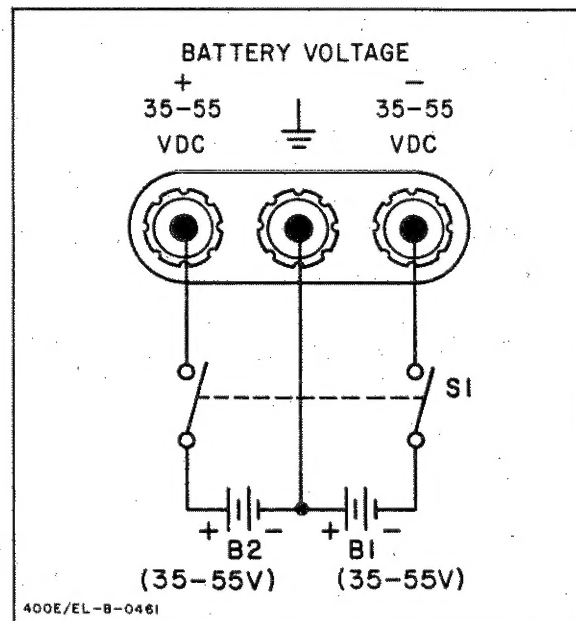
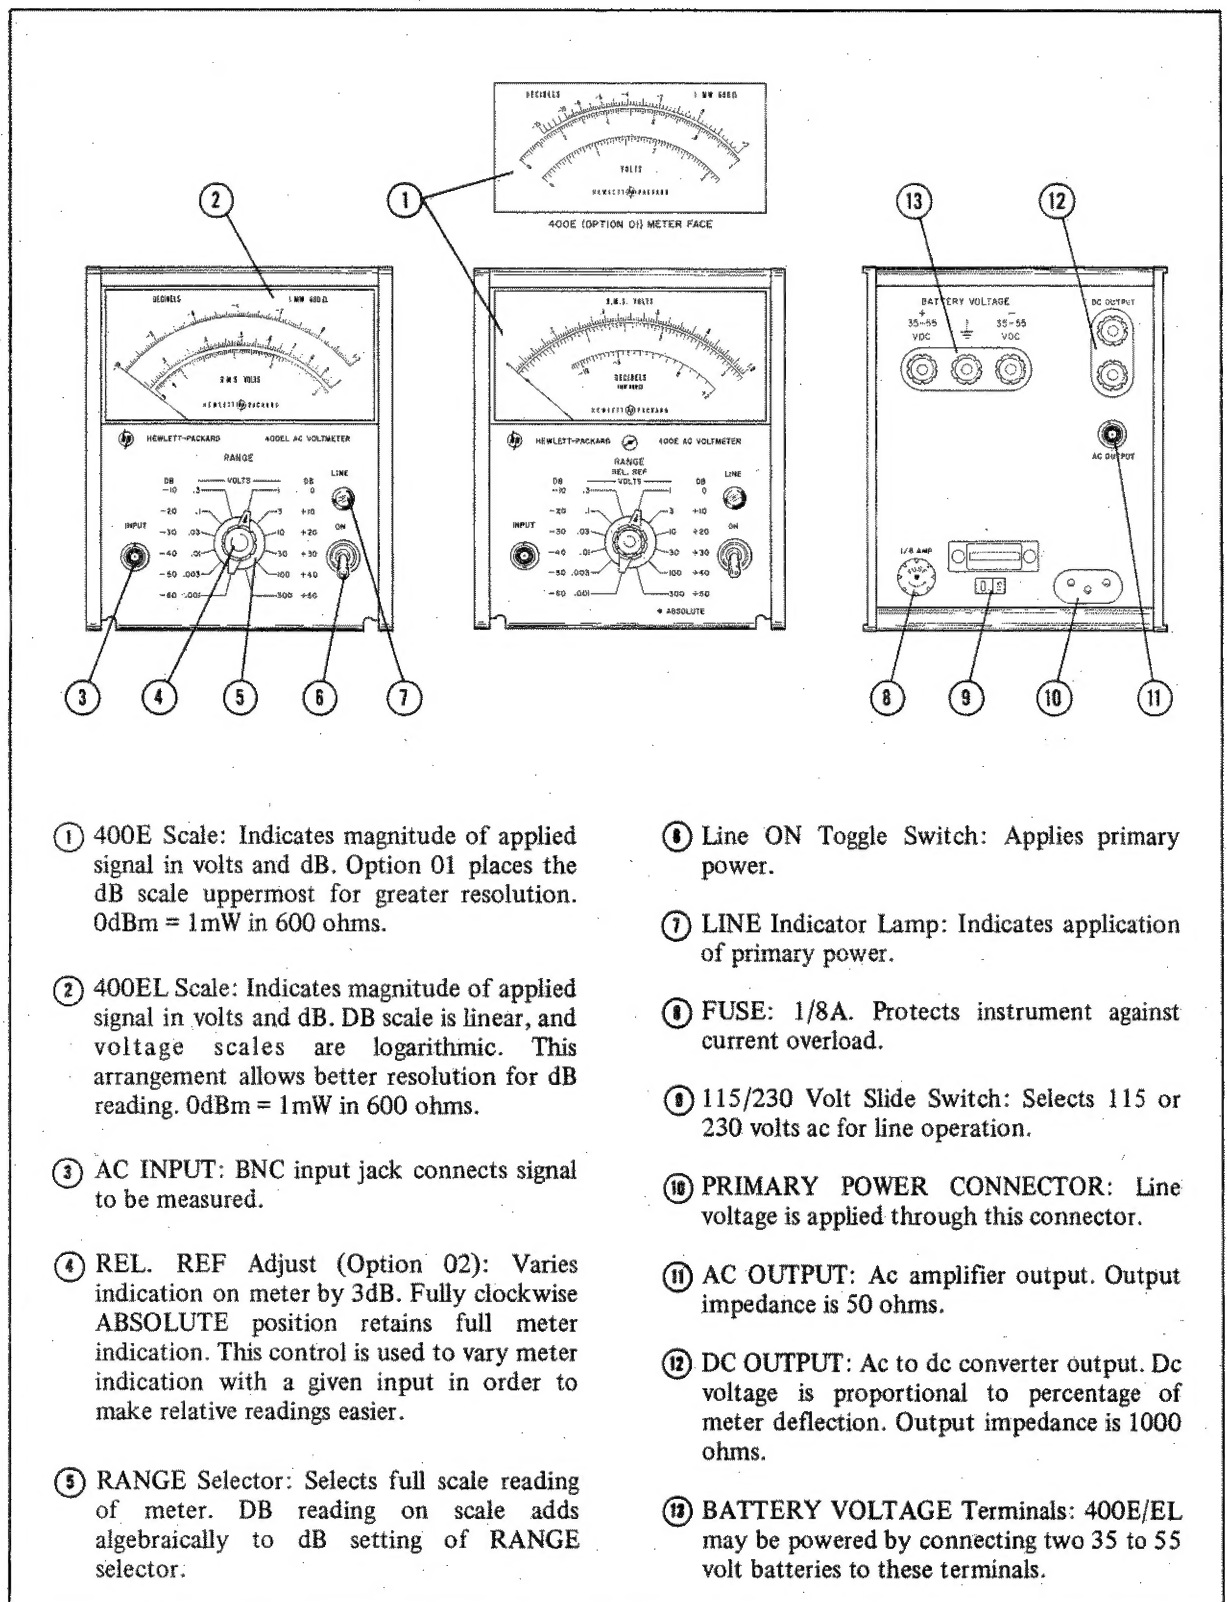

Figure 3-1. External Battery Connection
Figure 3-2. Location of Controls and Indicators
3-5. Figure 3-2 shows the location of each of the 400E/EL controls and explains the function of each.
- b. To operate the Model 400E/EL with battery power, connect two 35 to 55 volt batteries as shown in Figure 3-1. Since the front panel LINE switch has no effect during battery operation, the switch in Figure 3-2 can be used as a convenient method of disconnecting the batteries when the instrument is not in use. Two 35 volt batteries will draw approximately 75mA and two 55 volt batteries will draw approximately 50mA.